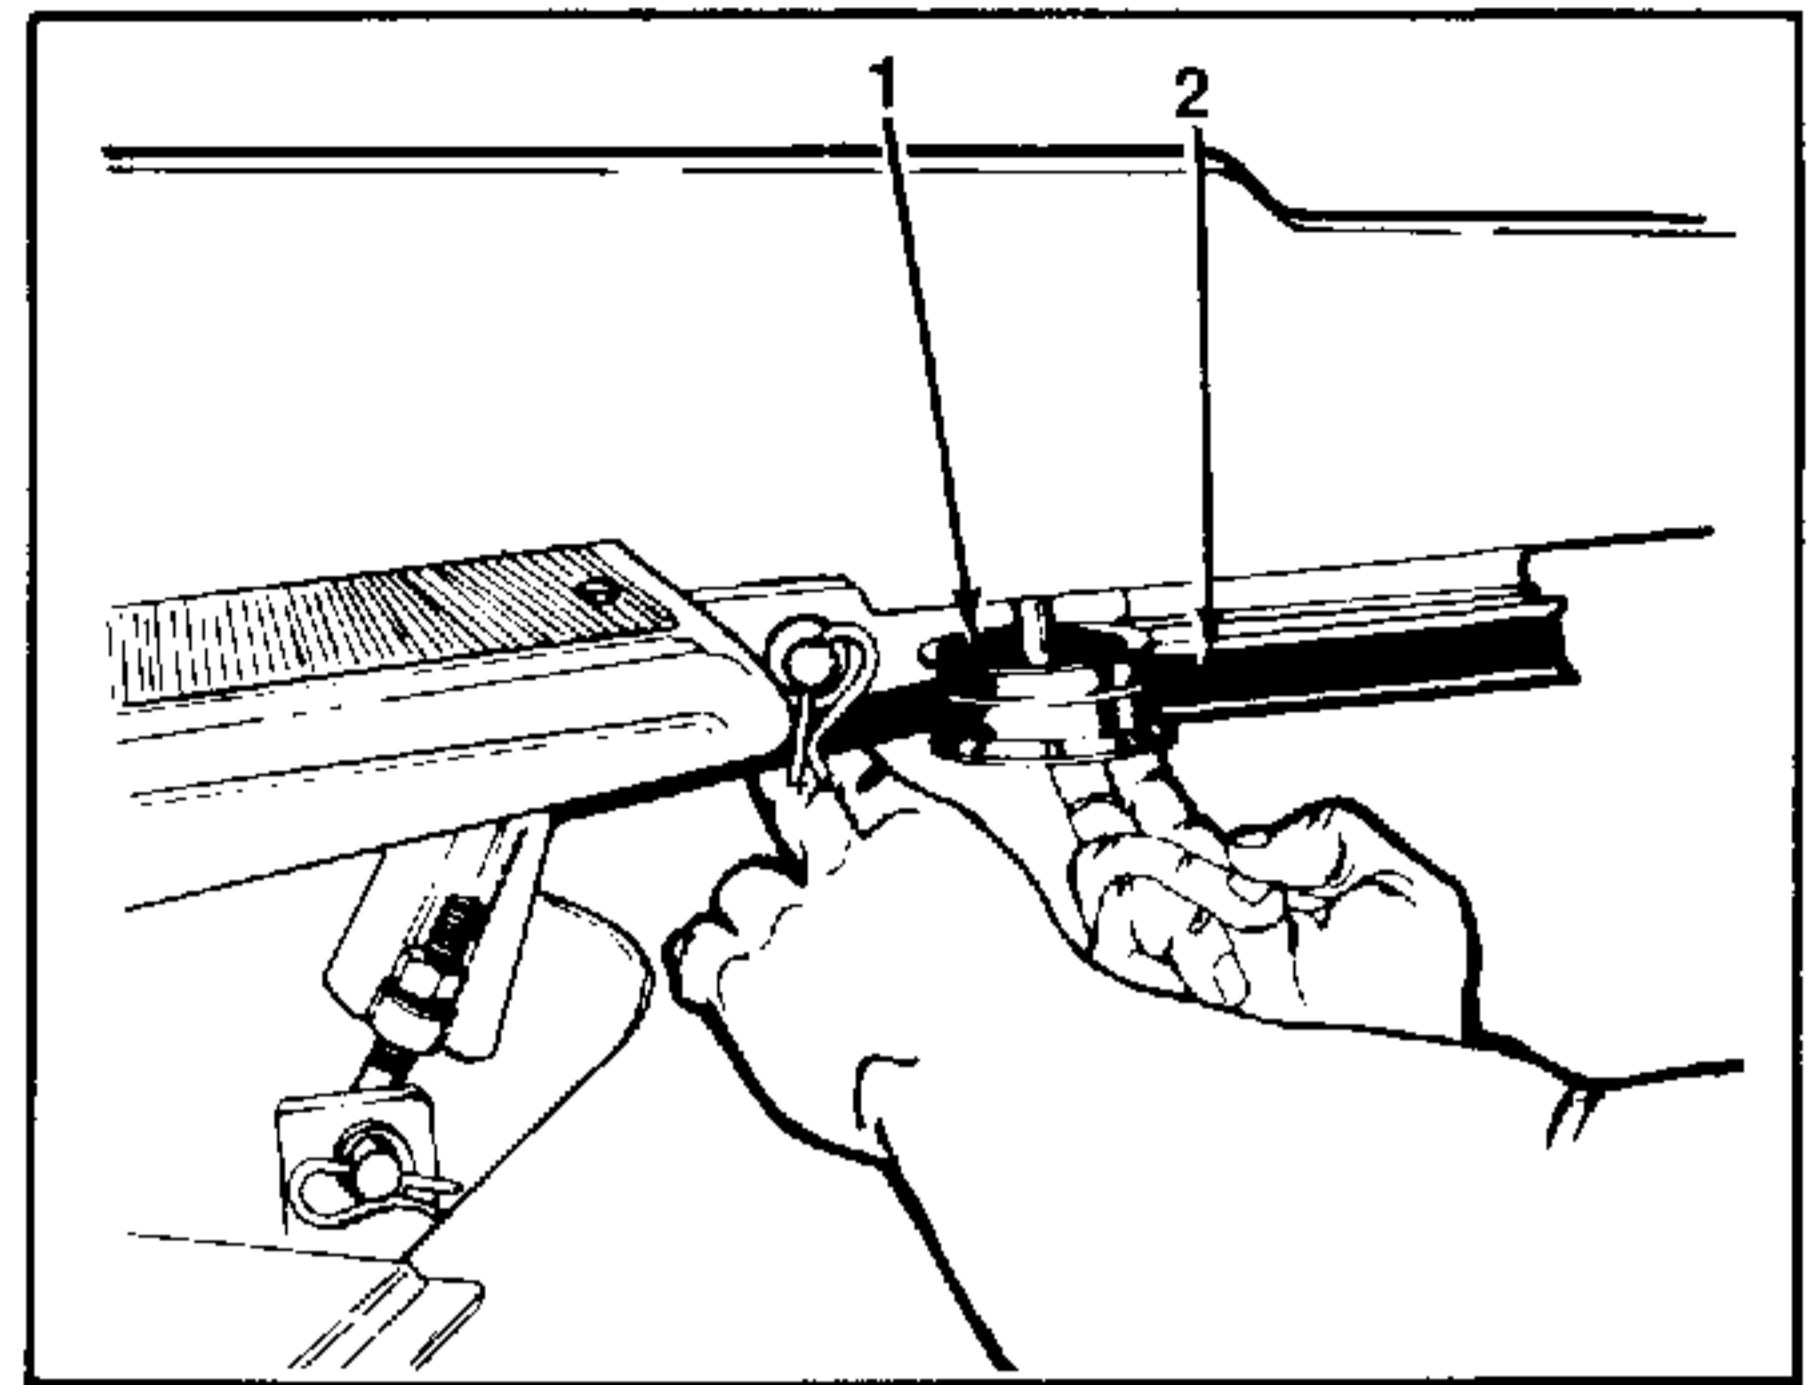

FIGURE 19.
4. Pull idler pulley away from the tractor and then place drive belt behind it. Release idler pulley. (See figure 19.)